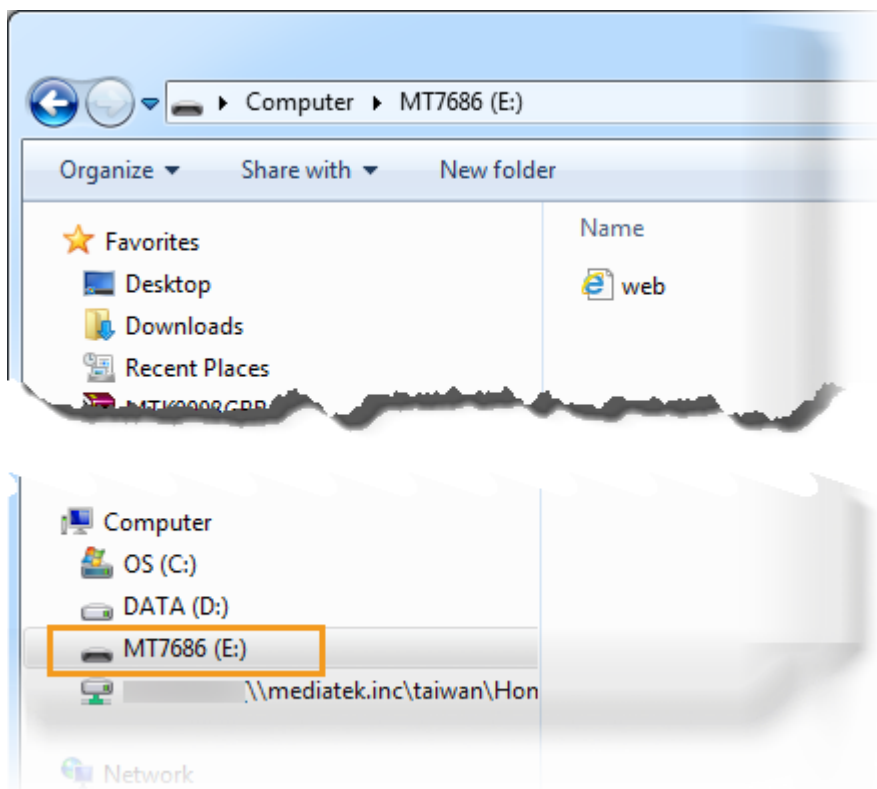

Figure 27. MT7682 removable storage detected
- 3) Navigate to **Computer** on your PC to check if a new mass storage named **MT7682** is available under **Removable Disk**, as shown in Figure 27.